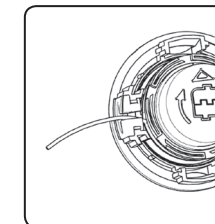
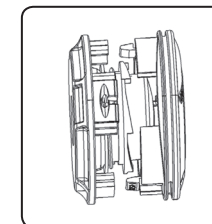

Fig. 20
Fig. 21
2. Pull the ends of the trimmer lines through the holes in the cover as shown in fig. 20 and then put on the cover as shown in fig. 21 so that the clips audibly click in. Ensure that the cover is properly secured in place, otherwise when the head starts rotating, the unsecured part will be released and fly out.